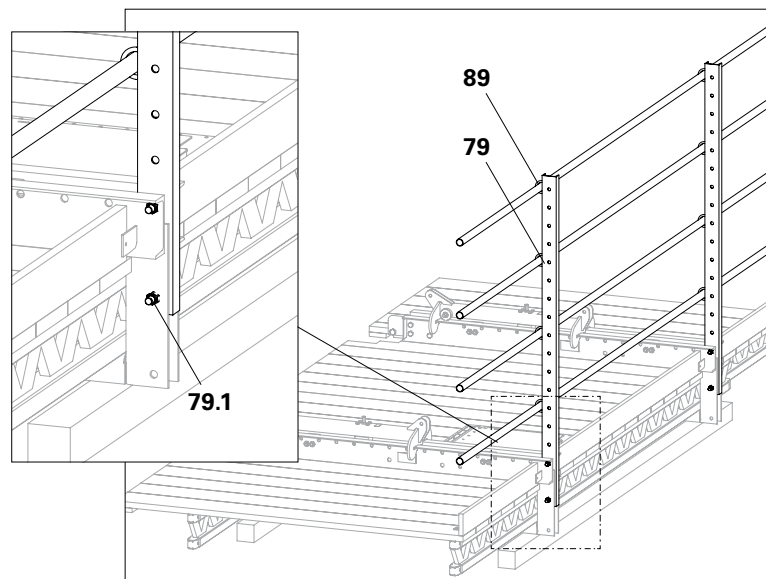

Fig. C2.04
2. Fix Scaffold Tubes \varnothing 48 to the Guardrail Post using Clamp A64 (**89**), see Section "Guardrails" on page 48. (Fig. C2.04)